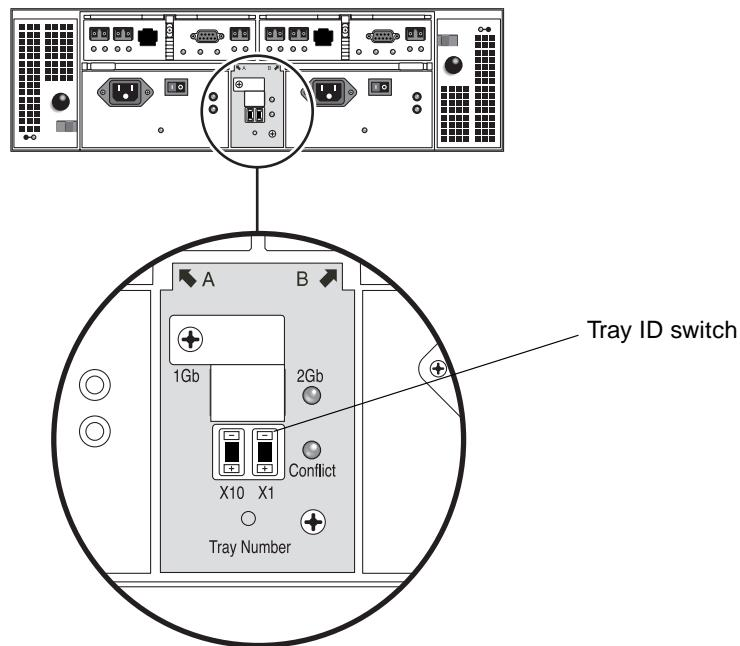

FIGURE 3-9 Tray ID Switch
1. **Locate the Tray ID switch at the back of the unit, between the two power supplies (FIGURE 3-9).**